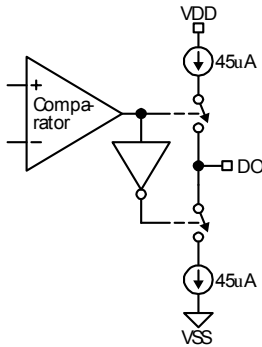

Figure 4. DO Pin
The output stage for the digital output (DO) is shown in Figure 4. The output is a 45µA push and 45µA pull switched-current stage. This output stage is capable of driving CMOS loads. An external buffer-driver is recommended for driving high capacitance loads.